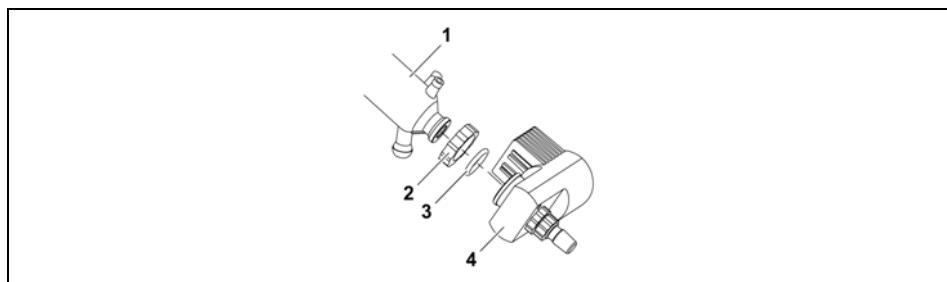

Fig. 4-8: Installing glassware (here: glassware G1)
- Slide screw coupling (2) over the condenser flange.
- Slide tension spring (3) over the condenser flange.
- Fasten the screw coupling G6 (6) on the drive head (Fig. 4-8 (5)).
- Insert connector part G6 (5) with the seal G6 (4) in the screw coupling G6 (6).
- Fasten junction (1) to the screw coupling G6 (6) using the screw coupling (2).
- Insert condenser in the upper receptacle of the junction (1).